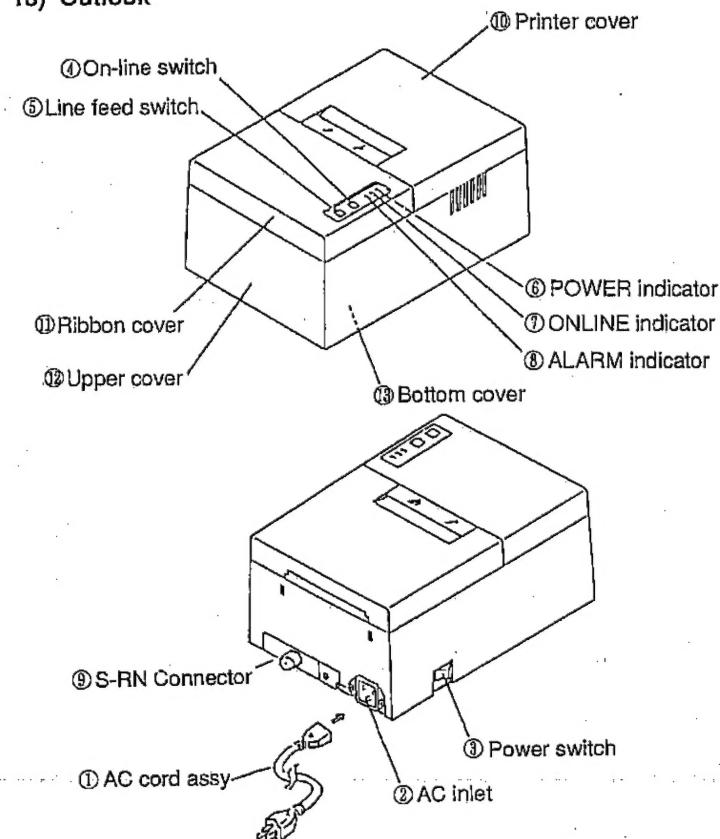

Fig. 1-1
18) Description of Each Block (Ref. Fig. 1-1)